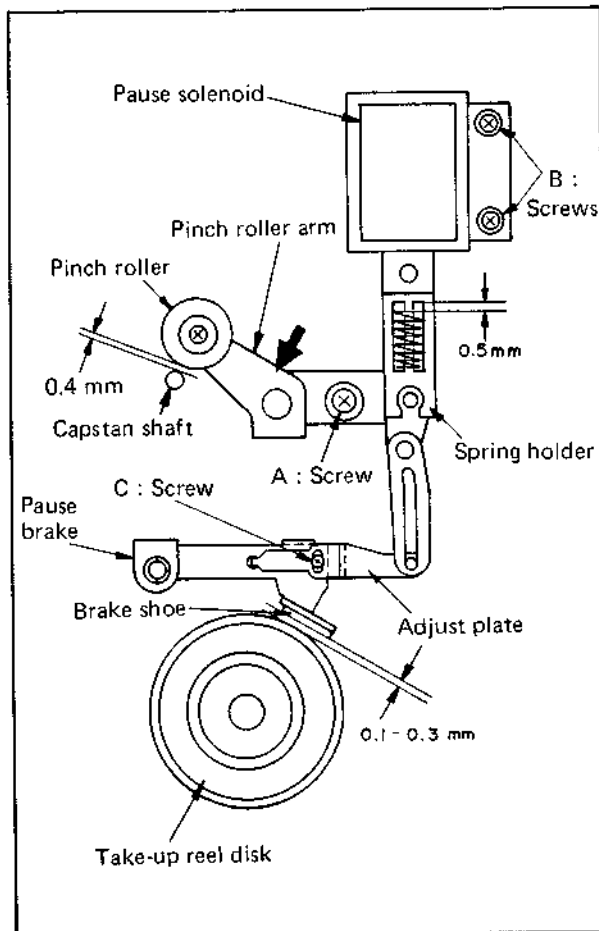

Fig. 4-45
2. See Fig. 4-45. Check for 0.4 mm spacing between the pinch roller and the capstan shaft (0.5 mm gauge does not fit in space).
1. Loosen screw A and 2 screws B (Fig. 4-45).